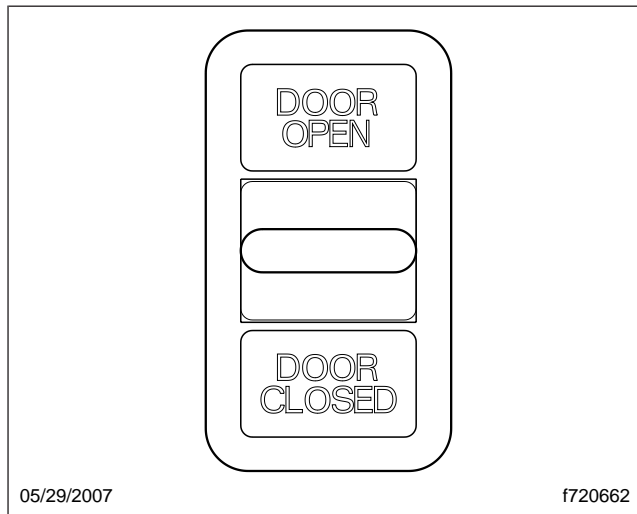

Fig. 2.3, Door Open/Door Closed Paddle Switch
- To close the door, move the paddle switch on the driver control panel to the DOOR CLOSED position. See Fig. 2.3.